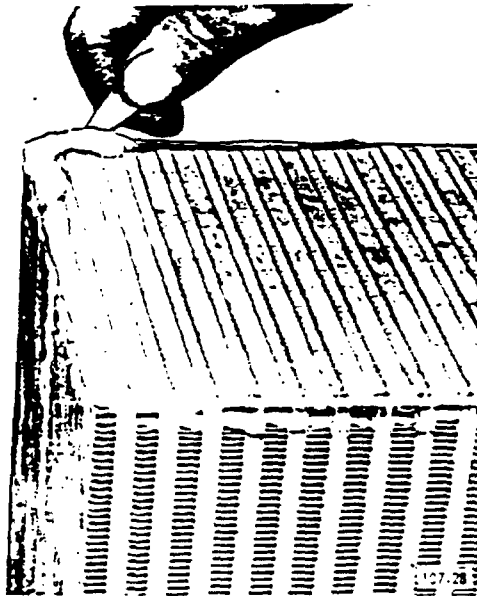

Figure 2-396. Cutting Material
2. Using a razor blade or a sharp knife, cut away the excessive bonding material. See Figure 2-396.